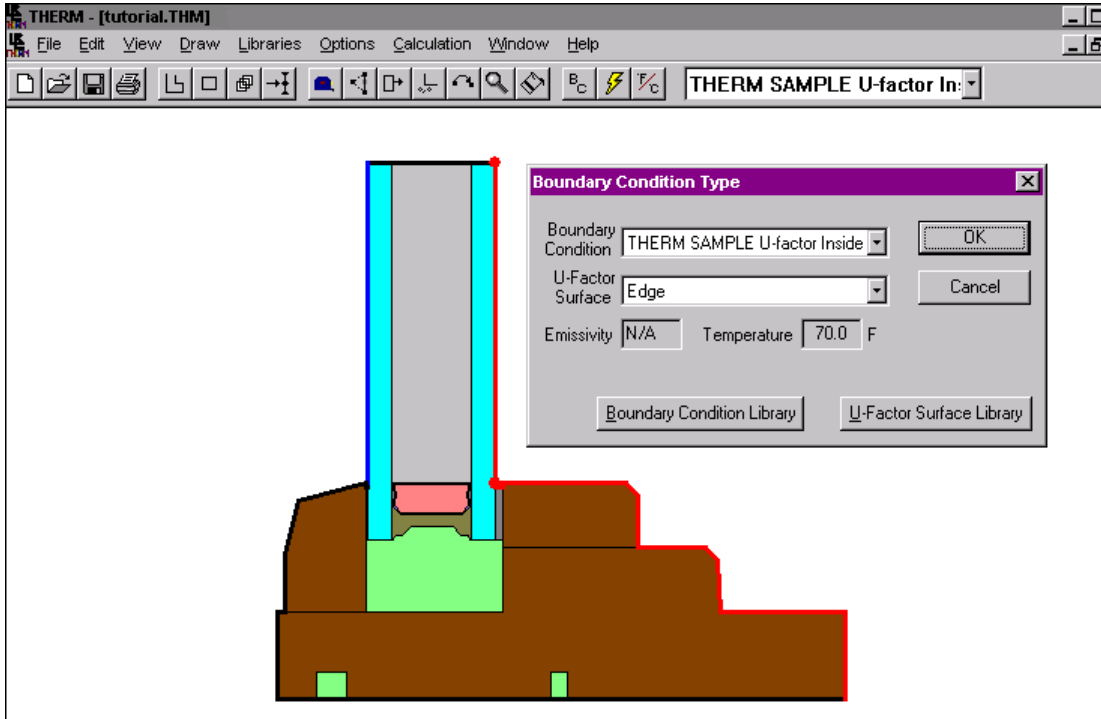

Figure 8-49. You can view the boundary condition definitions for the glazing system by double-clicking the left mouse button on the glazing system boundary.
- To view the boundary conditions automatically defined for the imported WINDOW glazing system, place the mouse cursor on the inside boundary segment of the glazing system, and double-click the left mouse cursor. The **Boundary Condition Type** dialog box will appear. **THERM SAMPLE: Inside U-factor** will already be selected for the **Boundary Condition**, and **Edge** for the **U-Factor Surface**, as shown in Figure 8-49. Press the **OK** button.